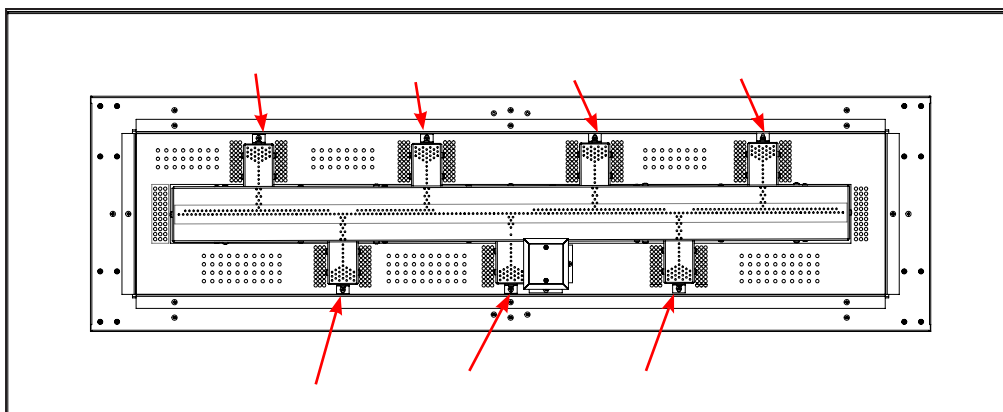

Figure 13: Glass Mount Brackets in Place
1. Remove Seven (7) T-20 screws on end of each burner arm. (See Figure 13)
3. Remove two (2) T-20 Screws securing the pilot mount on the media tray, Put the cover to the side.
4. Remove the two (2) T-20 screws securing the pilot plate to media tray. After removing the pilot screws, gently push the pilot assembly down thru the cut out on the fire pit media tray. **NOTE: The ignitor is very fragile. Take care not to damage it during installation.**